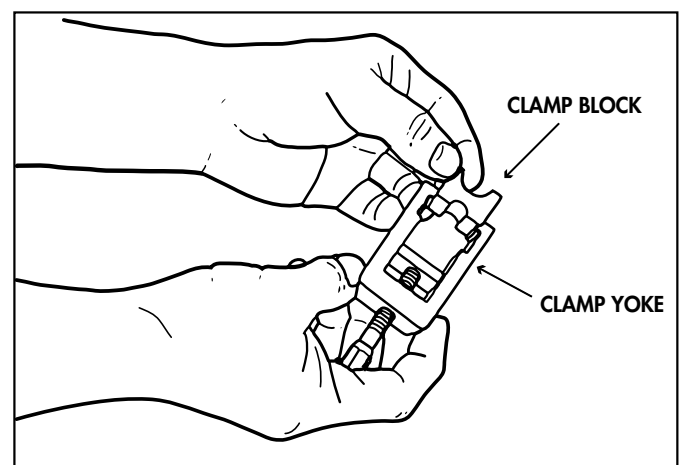

Figure 5. Installing Clamp Block in Clamp Yoke
d. Select the proper size clamp block, turn it so that the correct groove will be facing outward and slide the clamp block into the clamp yoke. (See figure 5.)